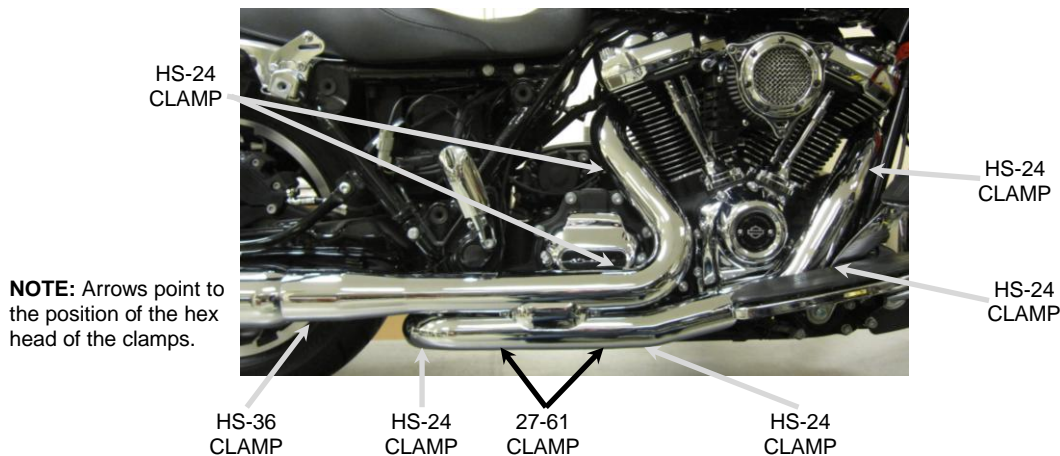

FIGURE 6
18. Remove the heatshields and hose clamps from packaging. Unscrew the hose clamps and feed the tail end of the clamps through the clips on the inside of the heatshield so the screws are accessible with a screwdriver once the heatshield is installed. The large HS-36 hose clamp goes on the rear clip on the rear heatshield. See **FIGURE 6 & 8** for proper positioning of the clamps on the heatshields. (**NOTE: The arrows point to the positioning of the hex head of the clamps.** The hex head of the clamps should be accessible for tightening but not visible when the heatshields are mounted to the pipes.)
19. Install the right rear heatshield over the rear headpipe. (Hint: Spread the hose clamps apart slightly to make it easier to slide them over the headpipes.) Align the heatshield with the headpipe and the collector heatshield. There should be an even gap around the collector heatshield. Snug the clamps but **DO NOT TIGHTEN** at this time. See **FIGURE 6 & 7.**
20. Install the right front heatshield over the right front headpipe. (Hint: Spread the hose clamps apart slightly to make it easier to slide them over the headpipes.) Align the heatshield with the headpipe and the collector heatshield. There should be an even gap around the collector heatshield. If the heatshield does not align well with the collector heatshield then the rear crossover pipe may need to be loosened and pushed forward or backward. When the heatshield is aligned properly snug the clamps but **DO NOT TIGHTEN** at this time. See **FIGURE 6 & 7.**